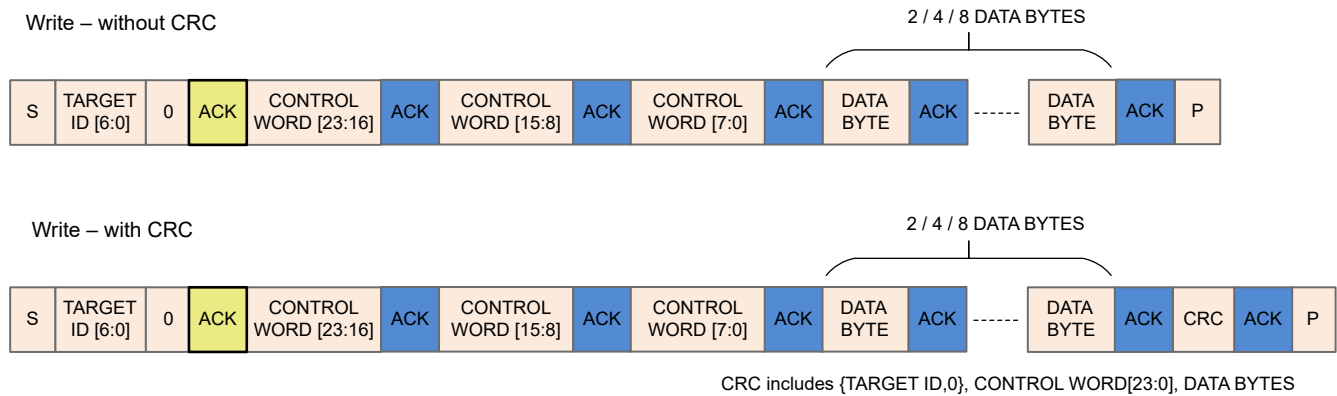
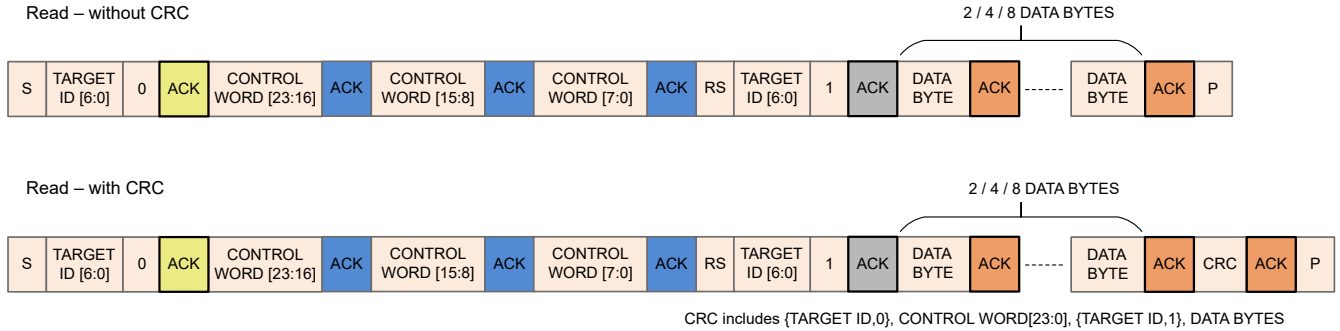

Figure 7-54. I²C Write Transaction Sequence
Figure 7-55. I²C Read Transaction Sequence
MCT8315A write transaction over I²C involves the following sequence (see Figure 7-54).
MCT8315A read transaction over I²C involves the following sequence (see Figure 7-55).
- a. When target ID is a match, I²C peripheral in MCT8315A raises a start interrupt request. Until this start interrupt request is processed, clock is stretched. Upon processing this request, clock is released and an ACK (marked in yellow or grey in Figure 7-54 and Figure 7-55) is sent to the controller for continuing with the transaction.
2. **Receive interrupt pending:** When a receive interrupt is waiting to be processed and the receive register is full which occurs when two successive bytes (data or control) have been received by MCT8315A (separated by one ACK shown as blue boxes in Figure 7-54 and Figure 7-55) without the receive interrupt generated by the first byte being processed. Upon receive of second byte, clock is stretched until receive interrupt generated by the first byte is processed.